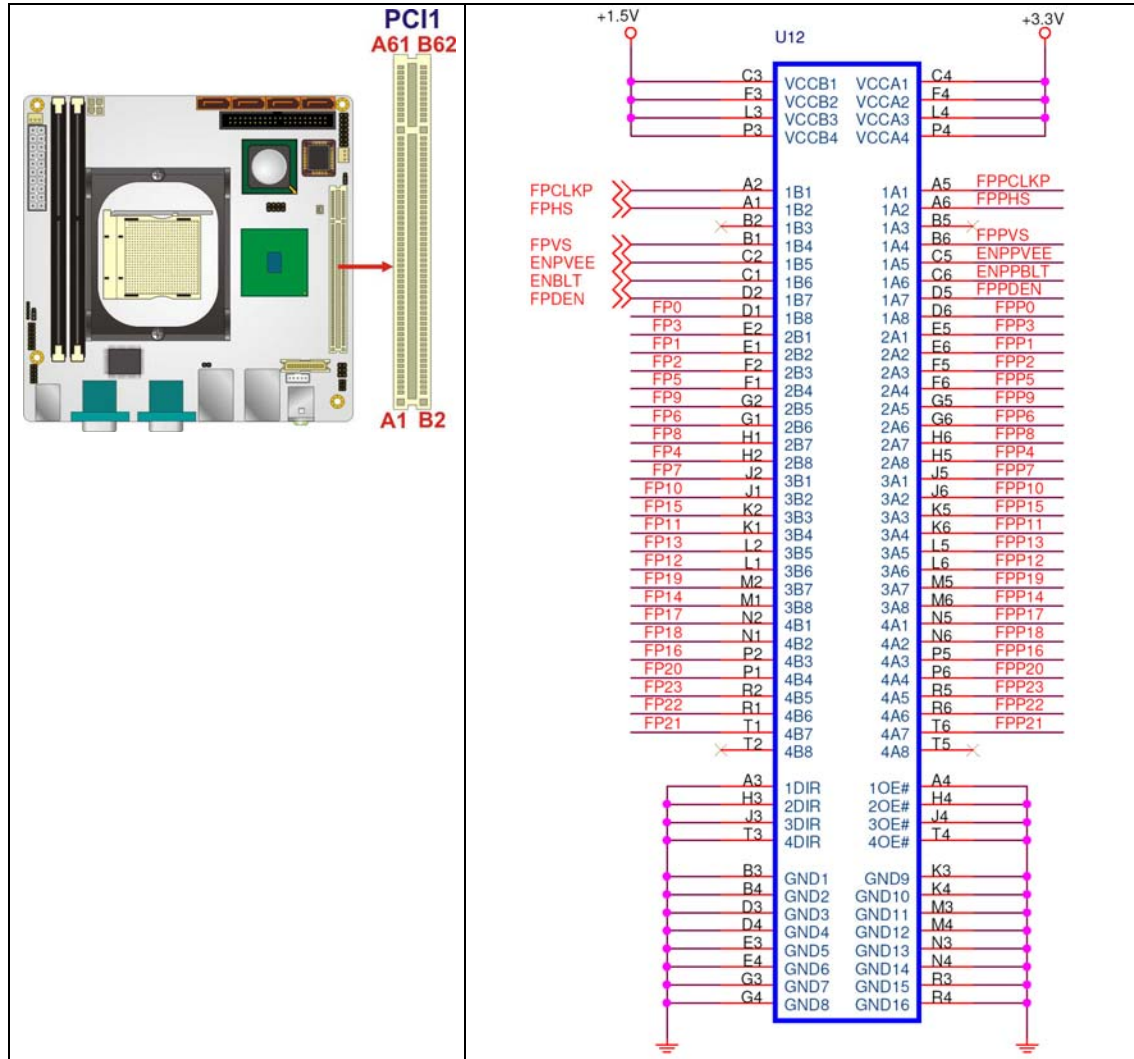

Figure 4-11: PCI Slot Location
- CN Location:** See **Figure 4-11**